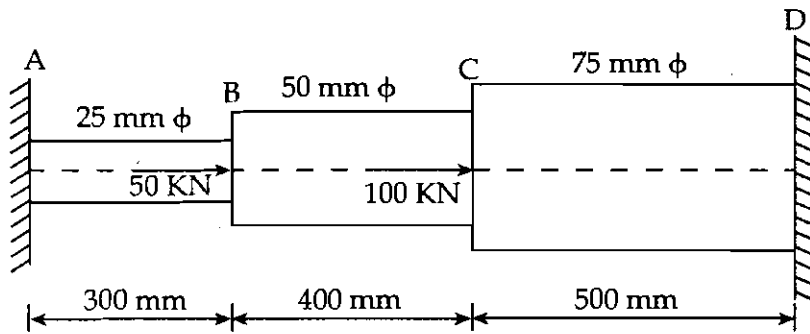

Figure 2
- (b) A circular steel bar ABCD, rigidly fixed at A and D is subjected to loads of 50 kN and 100 kN at B and C as shown in Figure 2, Find the loads shared by each part of the bar and displacements of the points B and C. Take E for steel as 200 GPa. 10